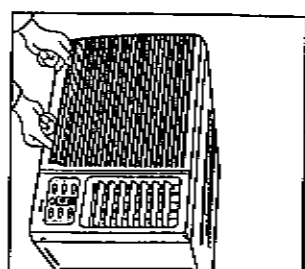

Fig. 1a
- Press the indents marked "PUSH" on the bottom corners of the front grill, this will cause the air filter to (pop-out) release. Fig. 1a